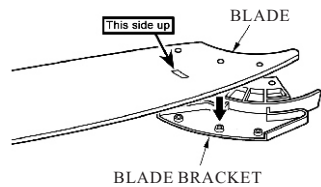

FIG.10
1. Install the screw, washer, blade and blade bracket together & tighten them securely. (See Fig.10&11)